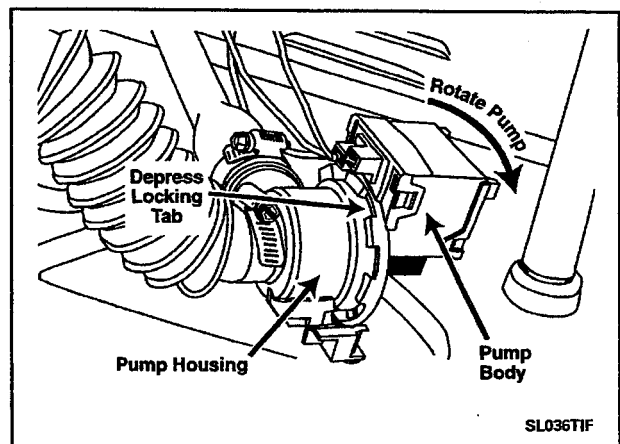

Figure 2-36
5. Rotate the pump assembly in a counter-clockwise direction. The support legs of the pump are slotted to engage in keyed slots in the base. Reverse the steps to re-mount the pump (*Figure 2-36*).